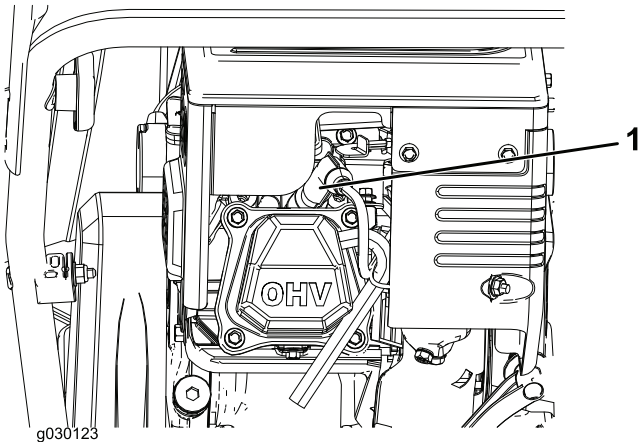

Figure 23
1. Remove the boot (Figure 23).